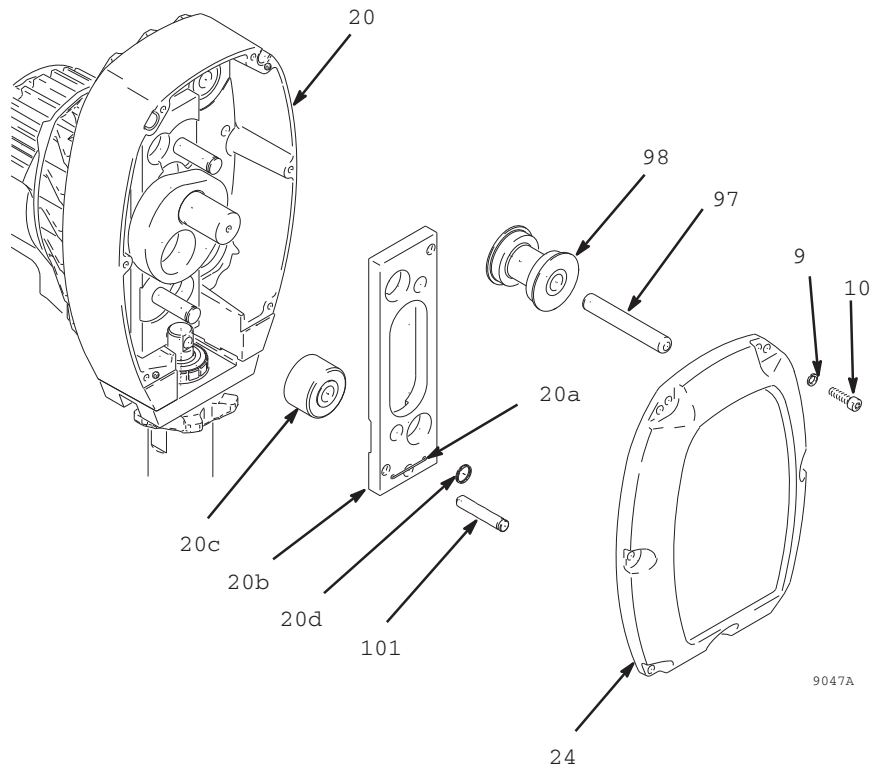

FIG. 4
NOTE: All Steps refer to FIG. 4.
3. Remove six cap screws (10), lock washers (9) and cover assembly (24) (FIG. 4, page 12).
4. Remove four dowel pins (97) and rollers (98) (FIG. 4, page 12).
5. From front, drive out pump pin (101) with a screw driver (FIG. 4, page 12).
6. Remove two retainer rings (20d) (FIG. 4, page 12).
7. Remove cam follower plate (20b) (FIG. 4, page 12).
8. Remove two cam follower bearings (20c) (FIG. 4, page 12).